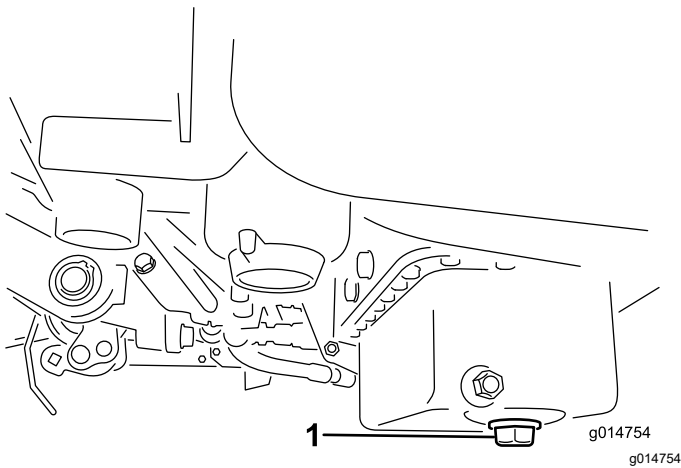

Figure 31
1. Remove the drain plug and let oil flow into a drain pan. When the oil stops, install the drain plug (Figure 31).